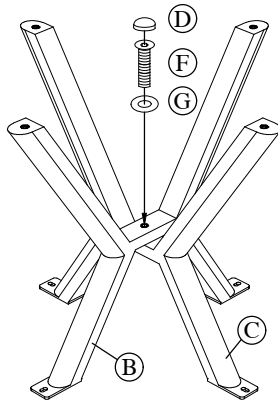

Figure 1
Step 2: Attach the table leg 1 to the table leg 2 by using the 1/4"x30 mm bolts(F) and Ø6.5x1.0 mm washers(G) as shown in *Figure 1*. Guide the bolts through the holes in the table leg 1 and table leg 2. **Hand tighten 2-3 revolutions only.** Repeat for the other sides.